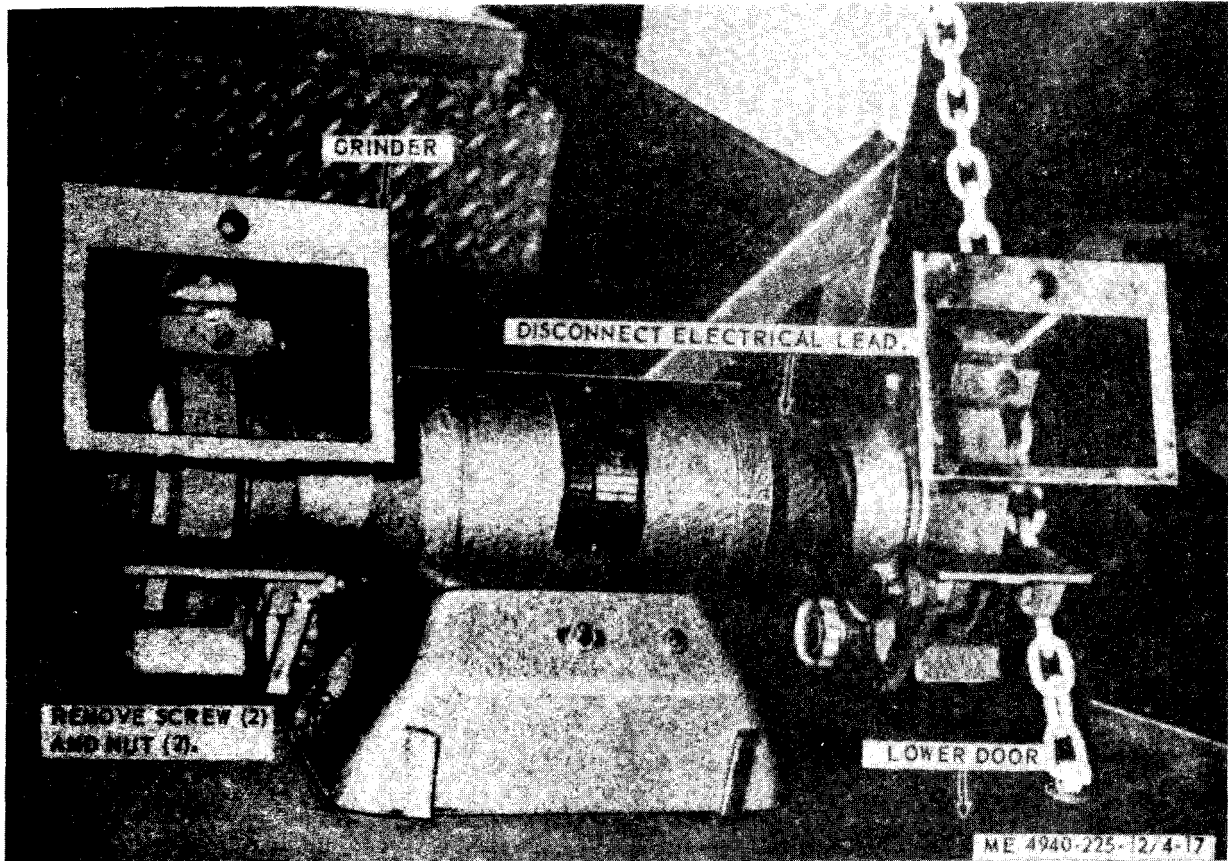

Figure 4-17. Grinder. removal and installation.
a. Removal. Remove the grinder as illustrated in figure 4-17.
b. Installation. Install the grinder as illustrated in figure 4-17.